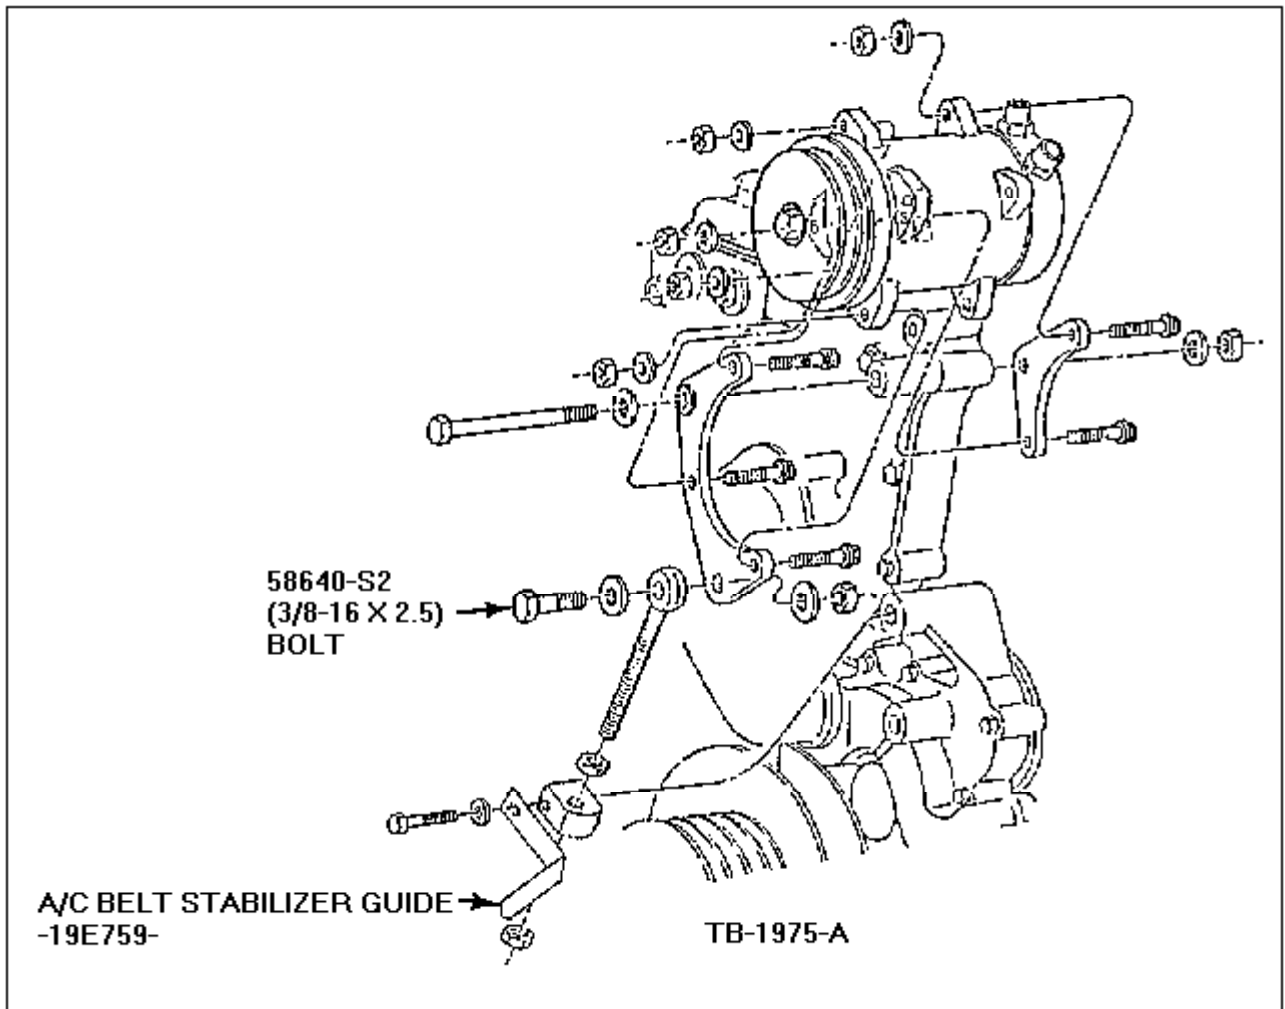

Figure 1 - Article 91-5-13
2. Install a drive belt stabilizer guide (F1HZ-19E759-A) on the tension side of the the belt circuit, Figure 1.